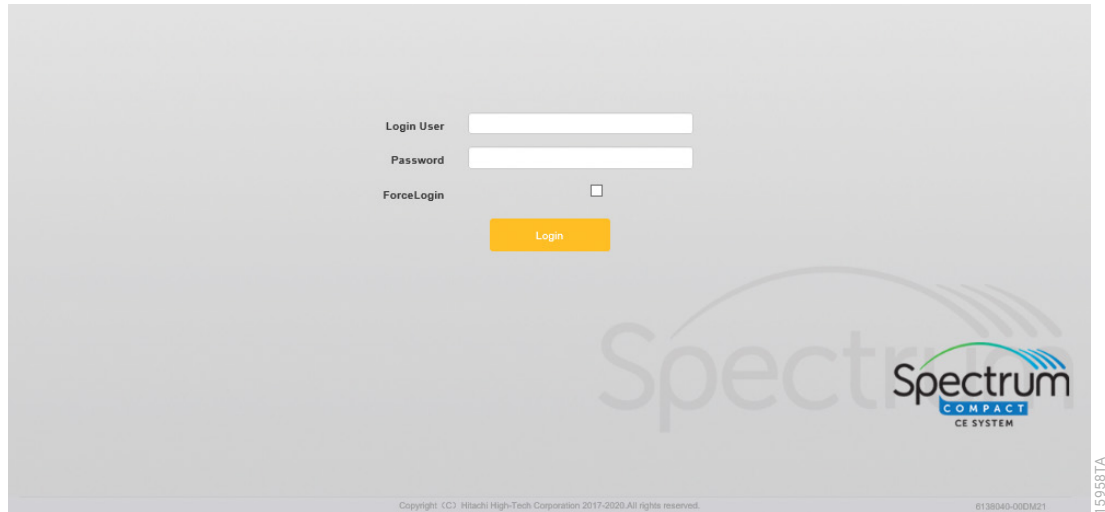

Figure 10. 'Spectrum Compact CE System Remote Access Software Login' screen.
2. Confirm that the 'Login' screen is displayed (Figure 10) and enter User Name and Password.
3. Select **Login** on the 'Spectrum Compact CE System Remote Access Software Login' screen (Figure 10).